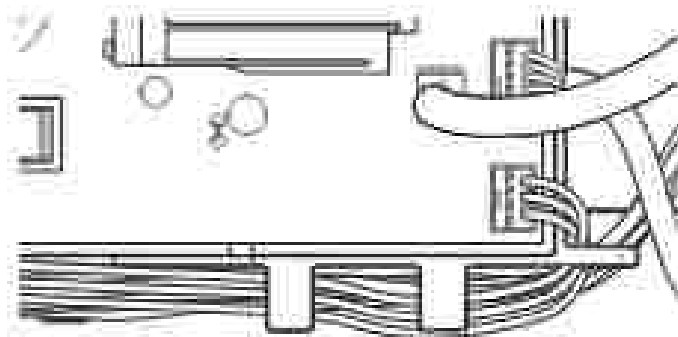

Figure 2 • Troubleshooting pinched wires in harness
See Figures 2 & 3 for Component Locations. For detailed troubleshooting procedures, refer to "Troubleshooting Tests."
- If 120 VAC is not present, check the AC power cord for continuity (See Figure 2.)
- c. Remove connector J8 from main control. Refer to Figure 2 - Main Control.